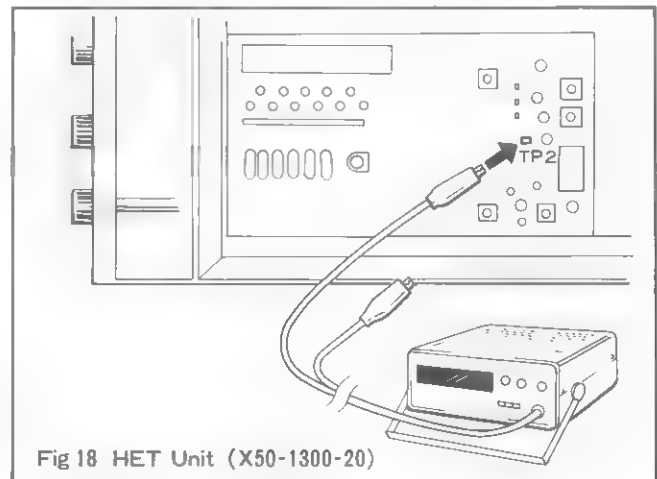

Fig 18 HET Unit (X50-1300-20)
- 2 Connect a frequency counter to the point TP2 (Fig. 18) in HET unit (X50-1300-20). The frequency counter should be capable of reading up to 10 MHz.